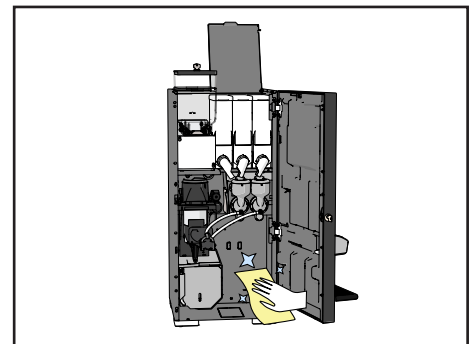

Figure 36.
17. Clean the interior of the machine (see Figure 36).